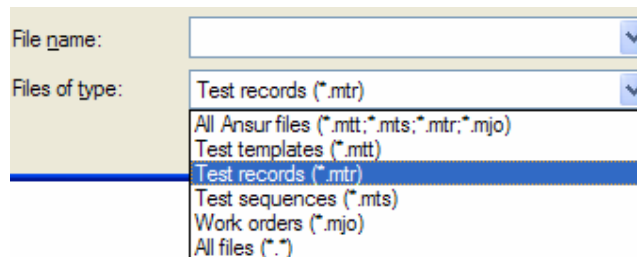

Figure 11 - Selecting file type to load
- 3 To view only files of a specific type, open the drop down list named **Files of type** and select the type of the file you want to load (see Figure 11).